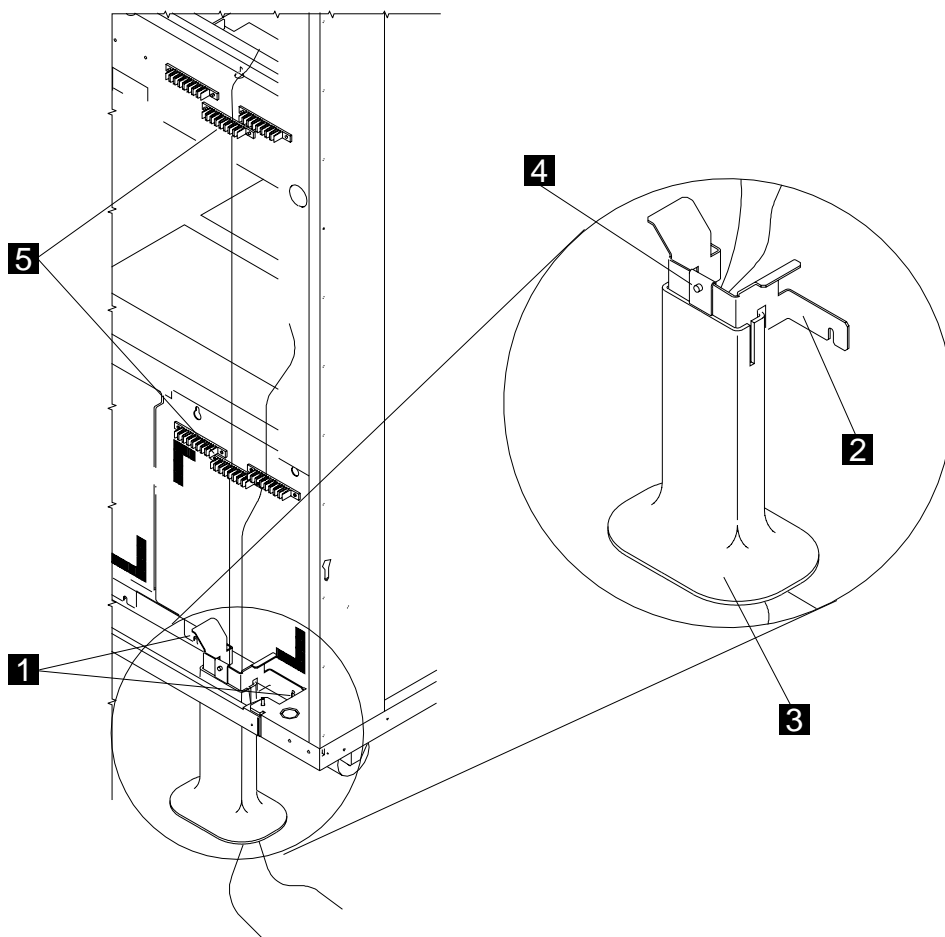

Figure 8-3. Routing the Optical Fibers
- If you have a bracket **2** with PN 76F9407 and the guide **3** with PN 69F2204 (see Figure 8-3) install as follows:
- Step b. ___ **Install** the bracket **2** (PN 76F9407), tighten the 2 screws **1**. See Figure 8-3
Step a. ___ **Route** the cables through the optical fiber guide if installed and insert the cables into the retaining strips **5**. (see Figure 8-3 on page 8-4 or Figure 8-3 on page 8-4)